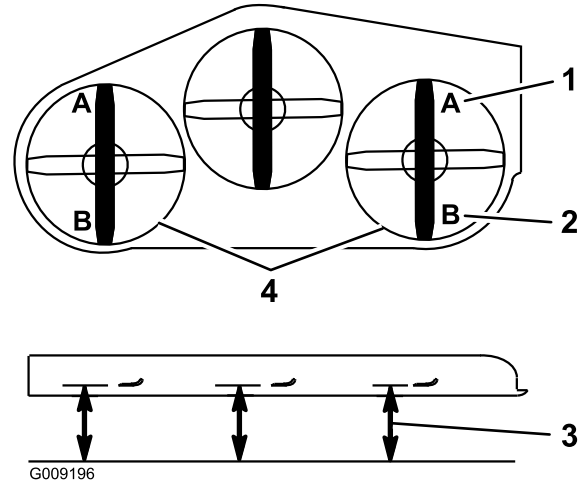

Figure 72
9. On both sides of the deck, measure from the level surface to the front tip of the blade (Position A) as shown in Figure 72.
16. On both sides of the deck, measure from the level surface to the back tip of the blade (position B) as shown in Figure 72.